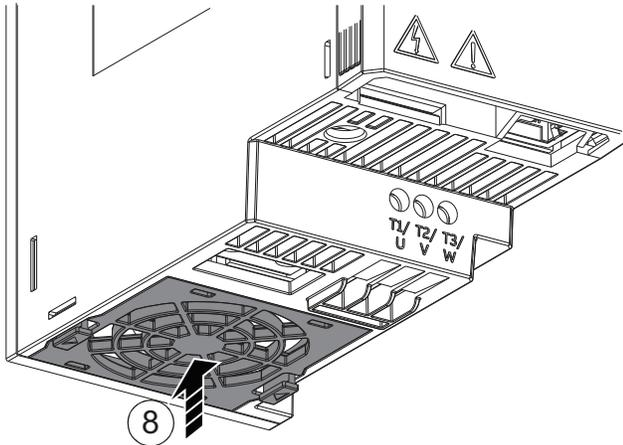

Fig. 70 — Place Fan Cover Back into Drive
- Carefully put the fan cover into position in the drive. Make sure that the fan power cable is routed correctly. Push the cover to lock into position. (See Fig. 70.)